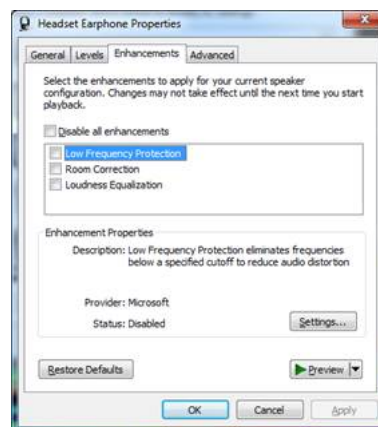

Figure 4—Headset Earphone Enhancement Settings.
Step 5: select the Enhancements tab and turn off all enhancements as shown in Figure 4. You may ultimately want to experiment with these, but initially it is recommended to leave them off.